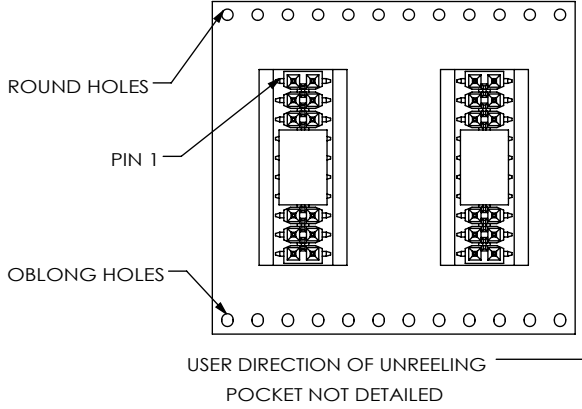

FIG 8
-TR: TAPE AND REEL (SEE FIG 8, SHT 3)